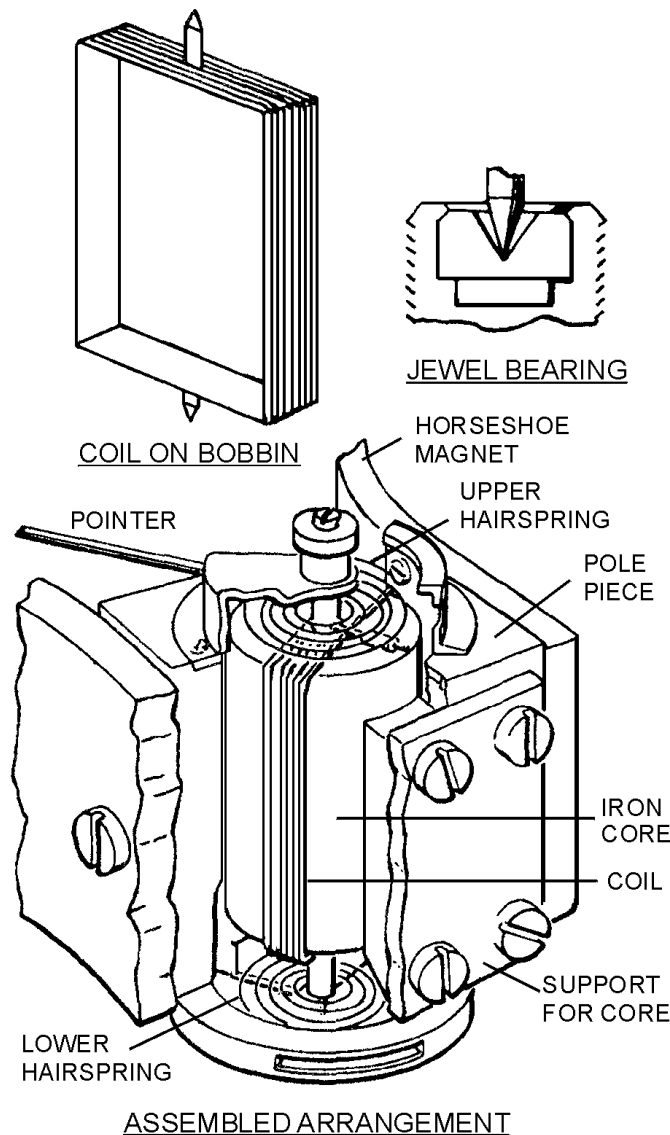

Figure 3-3.—Detailed view of the basic D'Arsonval meter movement.
**PRINCIPLE OF OPERATION.**—A more detailed view of the basic D'Arsonval movement, as it is used in ammeters and voltmeters, is shown in figure 3-3. The principle of operation is the same as that discussed in the simplified version. The iron core is rigidly supported between the pole pieces; it serves to
**DAMPING.**—This is accomplished in many D'Arsonval movements by means of the motion of the aluminum bobbin on which the coil is wound. As the bobbin rotates in the magnetic field, an electromotive force is induced into it as it cuts through the lines of force. Induced currents flow in the bobbin in a direction opposite to the motion; this causes the bobbin to go beyond its final position only once before stopping. The overall sensitivity of the meter can be increased by the use of a lightweight rotating assembly (bobbin, coil, and pointer) and by the use of jewel bearings, as shown in figure 3-3.